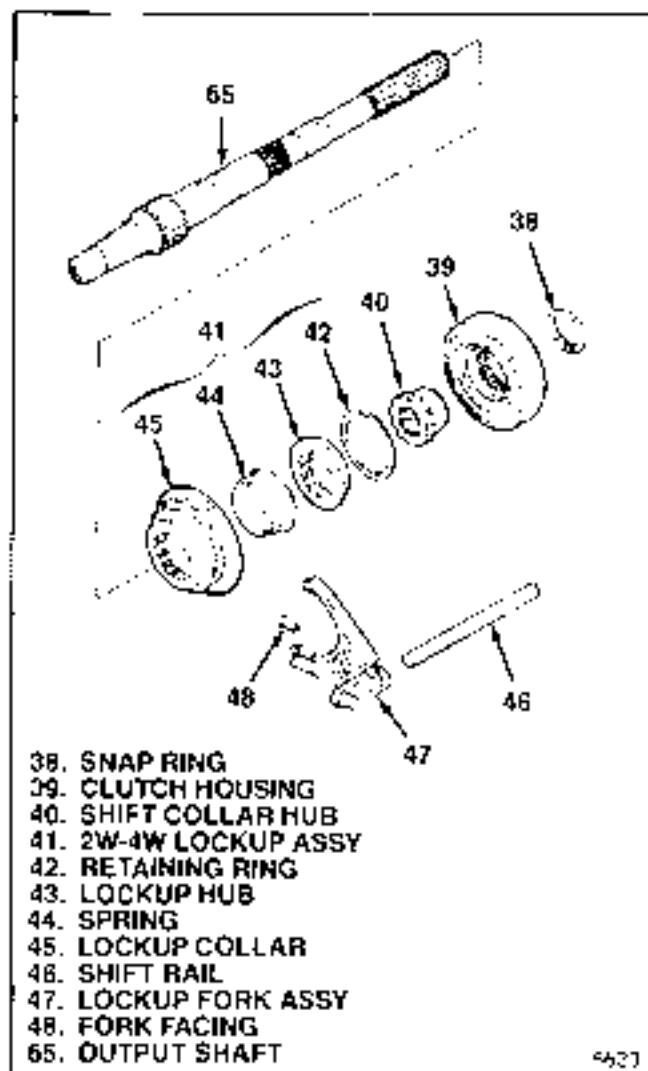
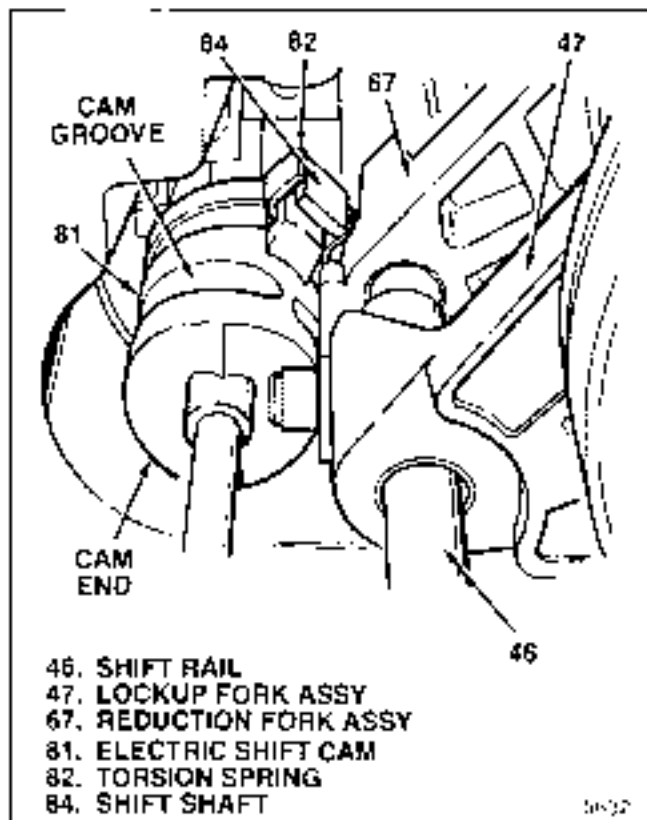

Figure 5-15. Lockup Shift Parts (Electric Shift)
Figure 5-17. Electric Shift Cam Installation
**5-13. INSTALLING LOCKUP SHIFT PARTS.** To assemble as completed thus far (49 through 110) install parts as follows (see figure 5-15 for electric shift, 5-16 for mechanical shift):
a. Install two fork facings (48) on lockup fork assembly (47).
b. Assemble return spring (44) and lockup hub (43) in lockup collar (45) and retain with snap ring (42), completing 2W-4W lockup assembly (41).
c. Engage lockup fork assembly (47) in groove in 2W-4W lockup assembly (41) and slide this group down over output shaft (65) and shift rail (46) previously installed.
d. Install shift collar or hub (40), engaging splines on output shaft (65) and in 2W-4W lockup assembly (41).
e. On electric shift units only, install electric shift cam group (81 through 84) previously assembled (paragraph 5-8) as follows (see figure 5-17):
1. Position electric shift cam group as shown in figure 5-17, rotated so that end of torsion spring (82) will contact side of reduction shift fork assembly (87) that lines up toward top of case.
2. Holding shift rail (46) down, raise up fork assemblies (87 and 47) slightly. Rotate electric shift cam group into position so that roller on reduction fork assembly (87) is in groove in shift cam (81) and roller on lockup fork assembly (47) is on cam end. Then lower this group of parts into the transfer case engaging shift shaft (84) pin in transfer case.
f. On electric shift units only, install clutch housing (39) over end of output shaft (65).
g. On all units, install snap ring (38) in groove in output shaft (65).